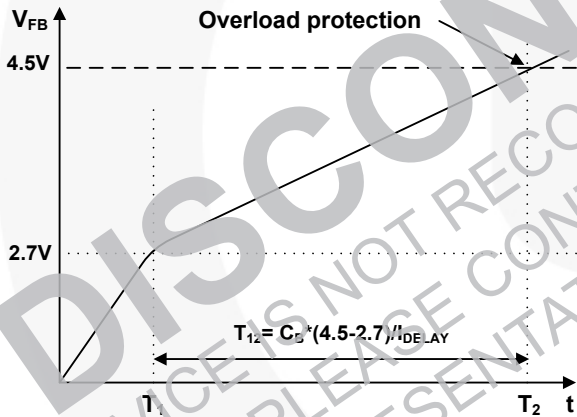

Figure 18. Overload Protection
3.1 Overload Protection (OLP): Overload is defined as the load current exceeding its normal level due to an unexpected abnormal event. In this situation, the protection circuit should trigger to protect the SMPS. However, even when the SMPS is in the normal operation, the overload protection circuit can be triggered during the load transition. To avoid this undesired operation, the overload protection circuit is designed to trigger after a specified time to determine whether the situation is transient or a true overload. Because of the pulse-by-pulse current limit capability, the maximum peak current through the senseFET is limited and, therefore, the maximum input power is restricted with a given input voltage. If the output consumes more than this maximum power, the output voltage (V_O) decreases below the set voltage. This reduces the current through the opto-coupler LED, which also reduces the opto-coupler transistor current, thus increasing the feedback voltage (V_{FB}). If V_{FB} exceeds 2.7V, D1 is blocked and the $5\mu\text{A}$ current source starts to charge C_B slowly up to V_{CC} . In this condition, V_{FB} continues increasing until it reaches 4.5V, when the switching operation is terminated, as shown in Figure 18. The delay time for shutdown is the time required to charge C_B from 2.7V to 4.5V with $5\mu\text{A}$. In general, a 10 ~ 50ms delay time is typical for most applications. This protection is implemented in auto restart mode.